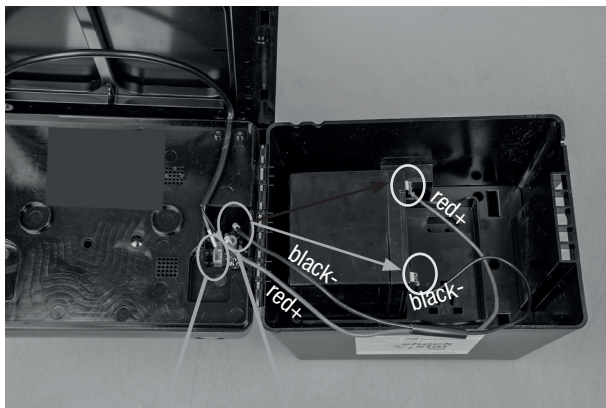

Fig. 4b
* or external batteries Fig 4b+c Super Vliess 12V/45Ah = Part. no. 15128, 12V/80 Ah = Part. no. 14479 or Special 12V/85 (C100) Ah = Part. no. 14894 or 12V/100 (C20) Ah = Part. no. 14126.